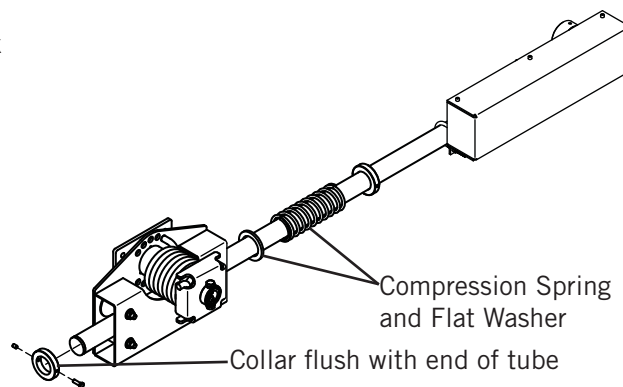

Figure 8
1) See Figure 8. Slide a lock collar (3), compression spring (5) and 2" washer (6), over the power cables and onto the front swing arm assembly (1). This collar will be tightened in a later step.
2) See Figure 8. Slide the power cable and front swing-arm (1) through the rollers of the front pivot box assembly. Slide another lock collar (3) over the power cable and onto the front swing-arm (1) and tighten 5/16-18 x 1" bolt W/ nylon patch (4) thru hole in tube and tighten second bolt against tube.